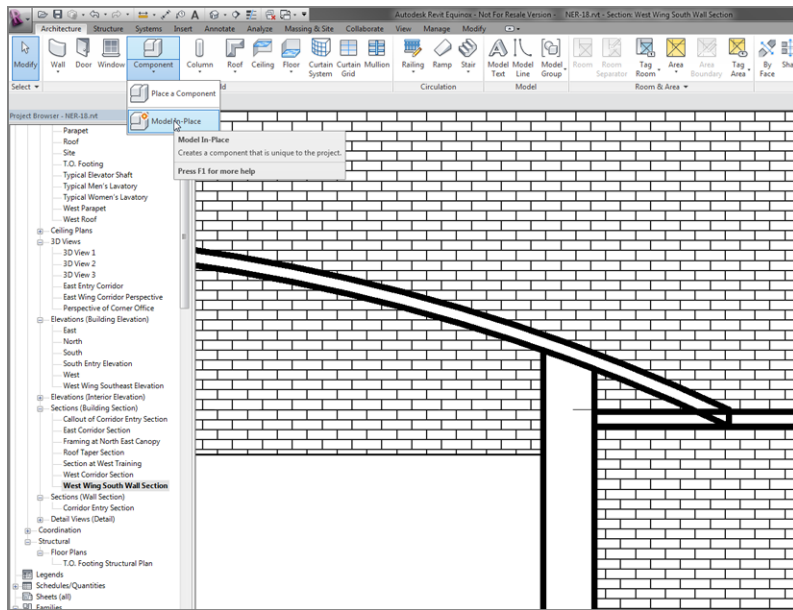

FIGURE 17.29: Starting an in-place family
3. On the Architecture tab, click Component ➤ Model In-Place, as shown in Figure 17.29.